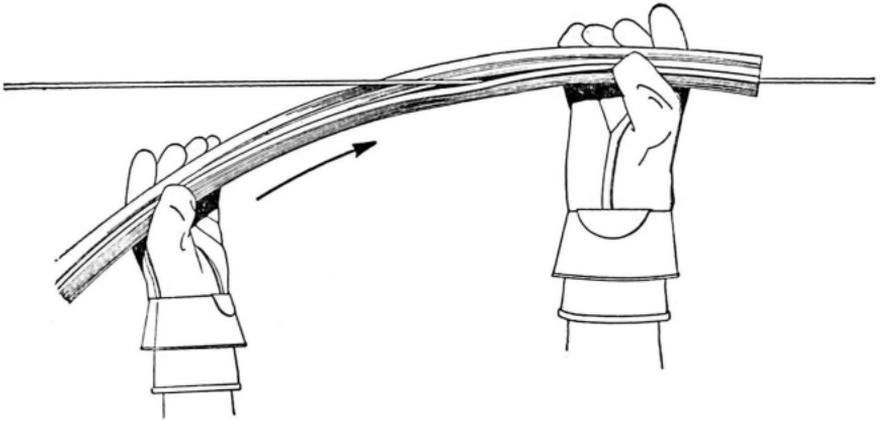

Fig. 1
4.02 Place Line Hose by pressing one end of it onto the wire to engage the lock and slip the remainder of the hose by pushing as illustrated in Fig. 1. In placing the hose, it is not necessary to reach far out from the pole since it easily slides on the wire from below.